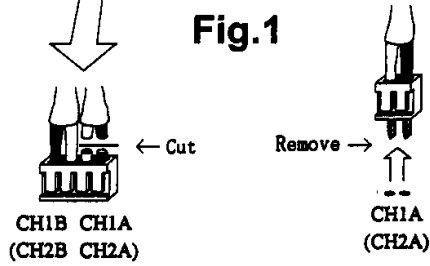

Fig.3
- ③ Remove * marked four components per Buffer Amp PCB as shown in Fig.3:
- ④ Replace * marked eight resistors with the supplied resistors per each Buffer Amp PCB as shown in Fig.3:
- ⑤ Connect the supplied 55 mm shield wires as shown in Fig.3.
- ⑥ Connect wires of the Buffer Amp PCB Assy to the A/D PCB as shown in Fig.3.